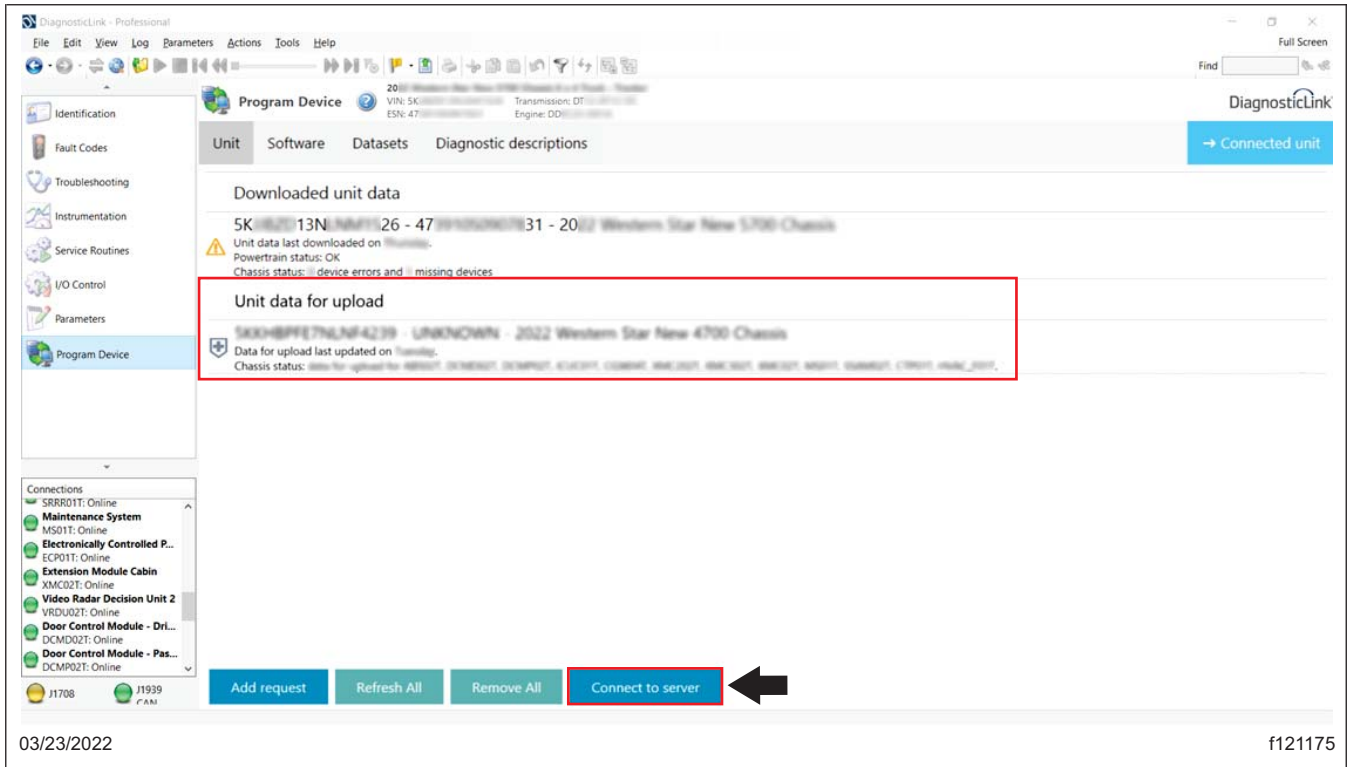

Fig. 93, Uploading the New Parameters
38.17 The information corresponding to the VIN should appear under the 'Unit data for upload.' Select 'Connect to server' to upload the new parameters. See **Fig. 93**.